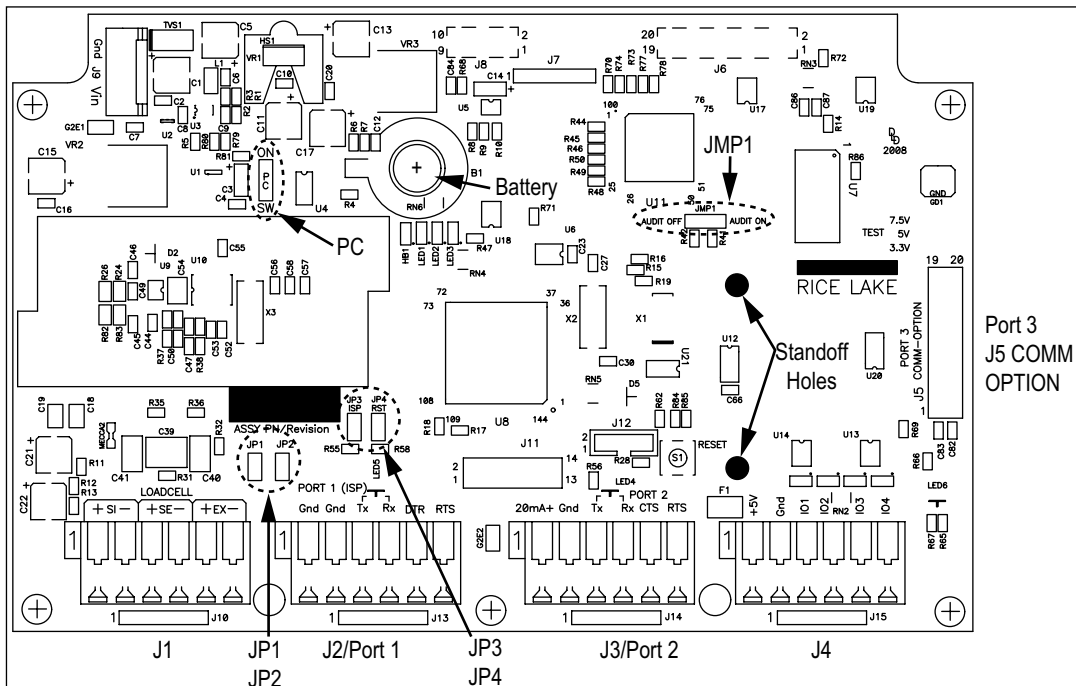

Figure 2-6. CW-90/90X CPU Board
3. Locate the battery inserted in the CPU board. See Figure 2-6 on page 17.